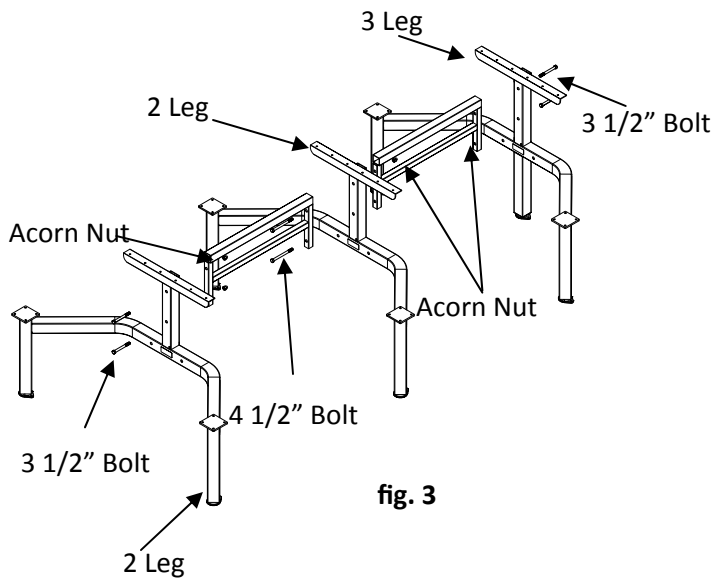

fig. 3
- Start with a 3 leg frame align upper holes in frame with holes in coupling. Using (2) 3/8"-16 x 3.5 hex head cap screw and acorn nut, assemble the three leg section to the coupling. **(fig .3)**
- Now grab a 2 leg frame along with a 2nd coupling. Align the upper holes with the other end of the coupling. Using (2) 3/8"-16 x 4.5 hex head cap screw and acorn nut, assemble the 2 leg section to the two couplings. **(fig.3)**
- Grab 1 more 2 Leg Support. Align holes in coupling with holes in vertical supports of your 2 leg frame. Using 3/8"-16 x 3.5 hex head cap screw and acorn nut, assemble the coupling and leg together. **(fig. 3)**
- Start with a 3 leg frame align upper holes in frame with holes in coupling. Using (2) 3/8"-16 x 3.5 hex head cap screw and acorn nut, assemble the three leg section to the coupling. **(fig. 3)**
- Now grab a 2 leg frame along with a 2nd coupling. Align the upper holes with the other end of the coupling. Using (2) 3/8"-16 x 4.5 hex head cap screw and acorn nut, assemble the 2 leg section to the two couplings. **(fig.3) (Repeat this step a 2nd time)**